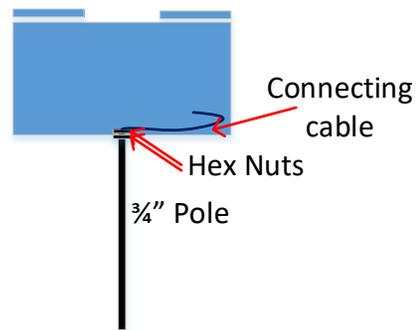

Figure 3: GPS Dome Model T Mechanical Interface
- (1) Installation and methods used to secure the GPS DOME Model T system may vary depending on the place of installation and cable's availability.
- (2) Use general purpose tools to carry out this installation procedure unless specific tools are called up in text.
- (3) The GPS DOME Model T is composed of elements that are IP67 certified as long as the recommended TNC connector is tightened to the correct torque and the cable is sealed using the correct sealant.
Step 1. With reference to Figure 3, carry out the following: